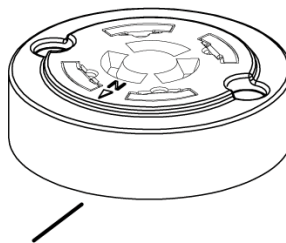

Figure 2 – North Markings
5. Mark the "North Arrow" position on the luminaire with a pencil or marker. **(See Figure 2)**